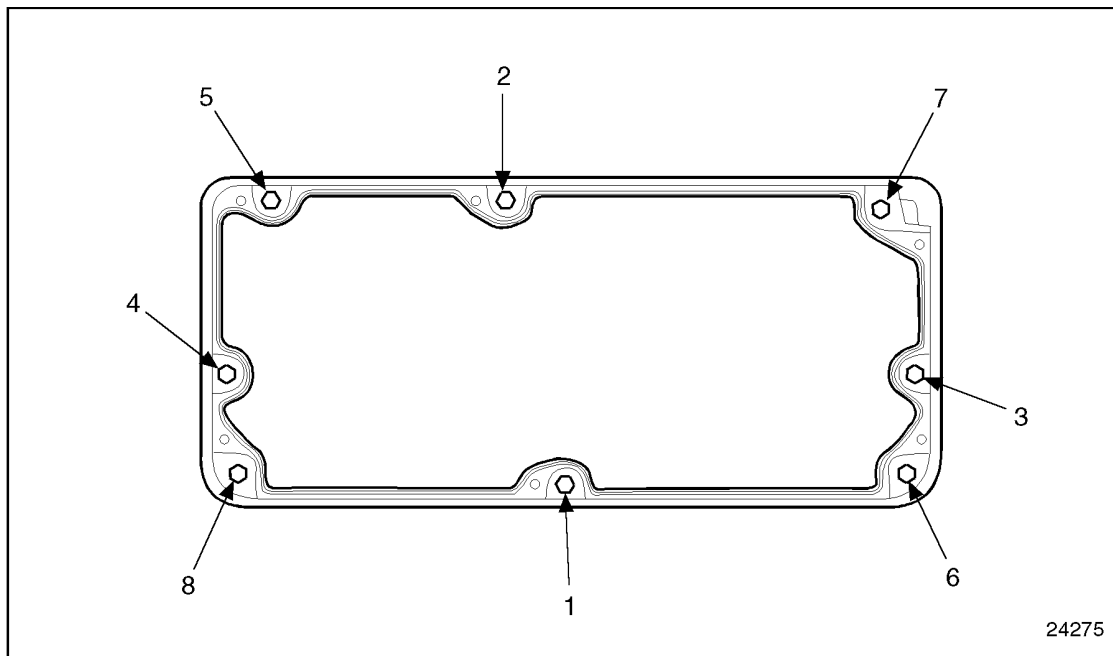

Figure 1-106 Rocker Cover Base Bolt Tightening Sequence
5. Torque the eight rocker cover base hold-down bolts to 30-38 N·m (22-28 lb·ft) using the tightening sequence. See Figure 1-106. Tighten the bolts in two stages, using half-torque value first.